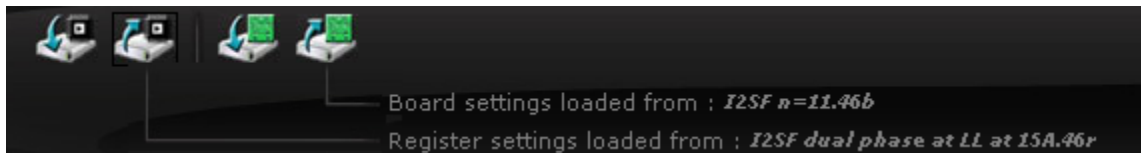

Figure 6 - Different icons on dashboard for loading and saving .46r and .46b files
6. The IC on the board comes preprogrammed and this step is optional. The original register configuration is stored in the ADP1046_uTCA_C_xxxx.**46r** register file (Note: All register files have an extension of .46r). The file can be loaded using the second icon from the left in Figure 6.